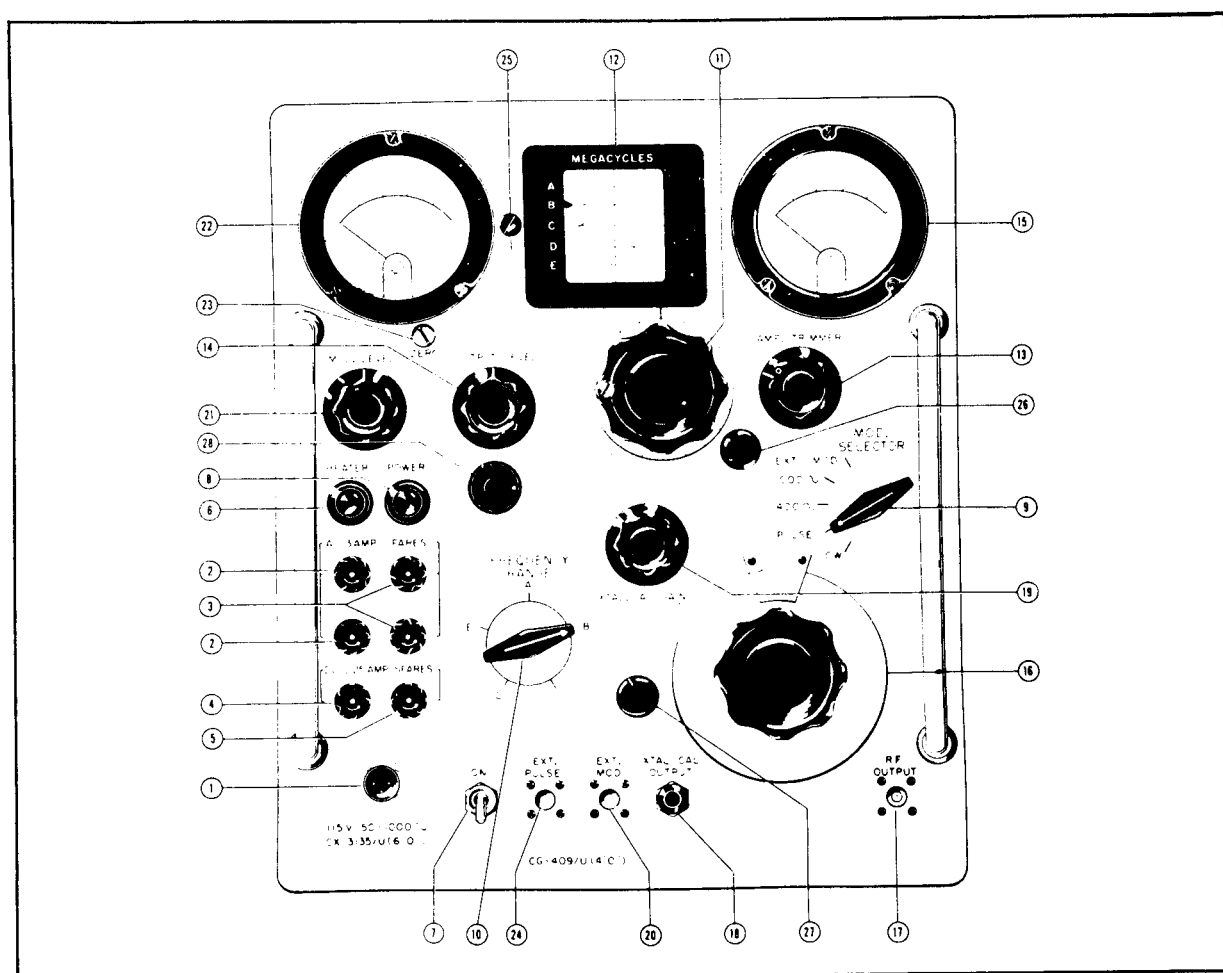
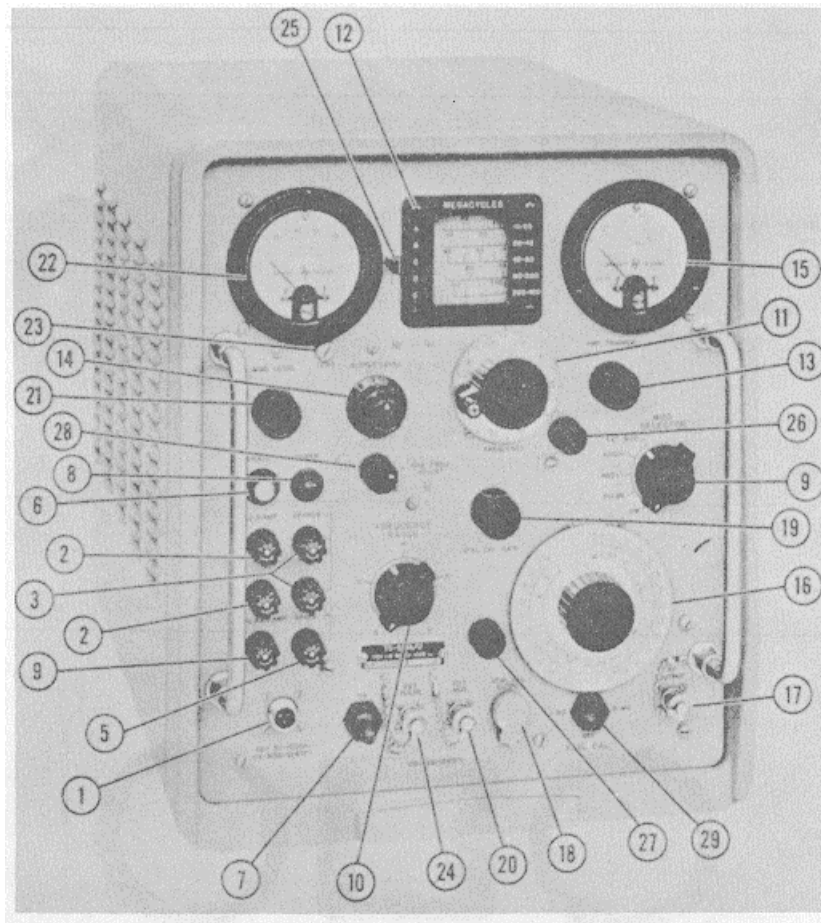
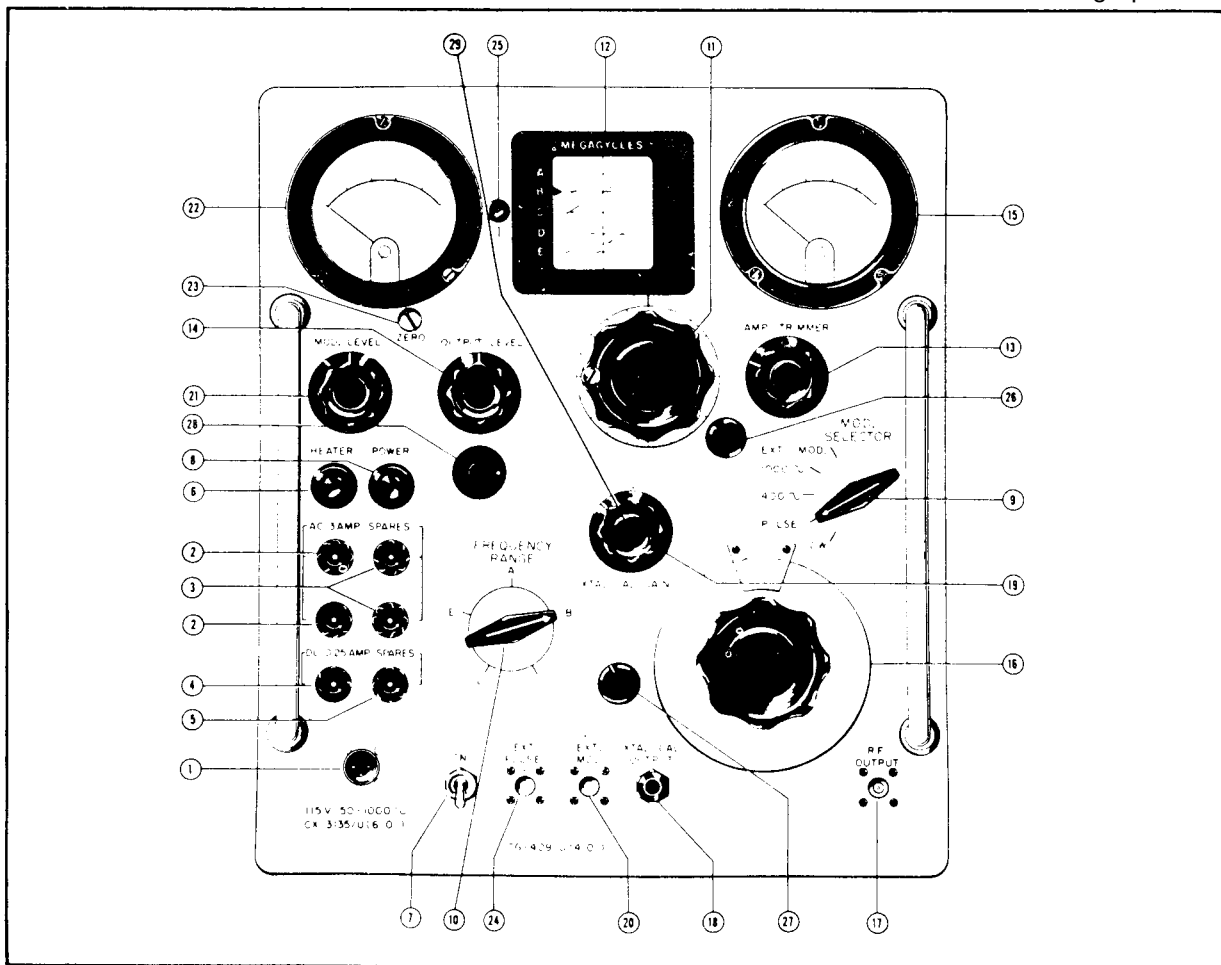
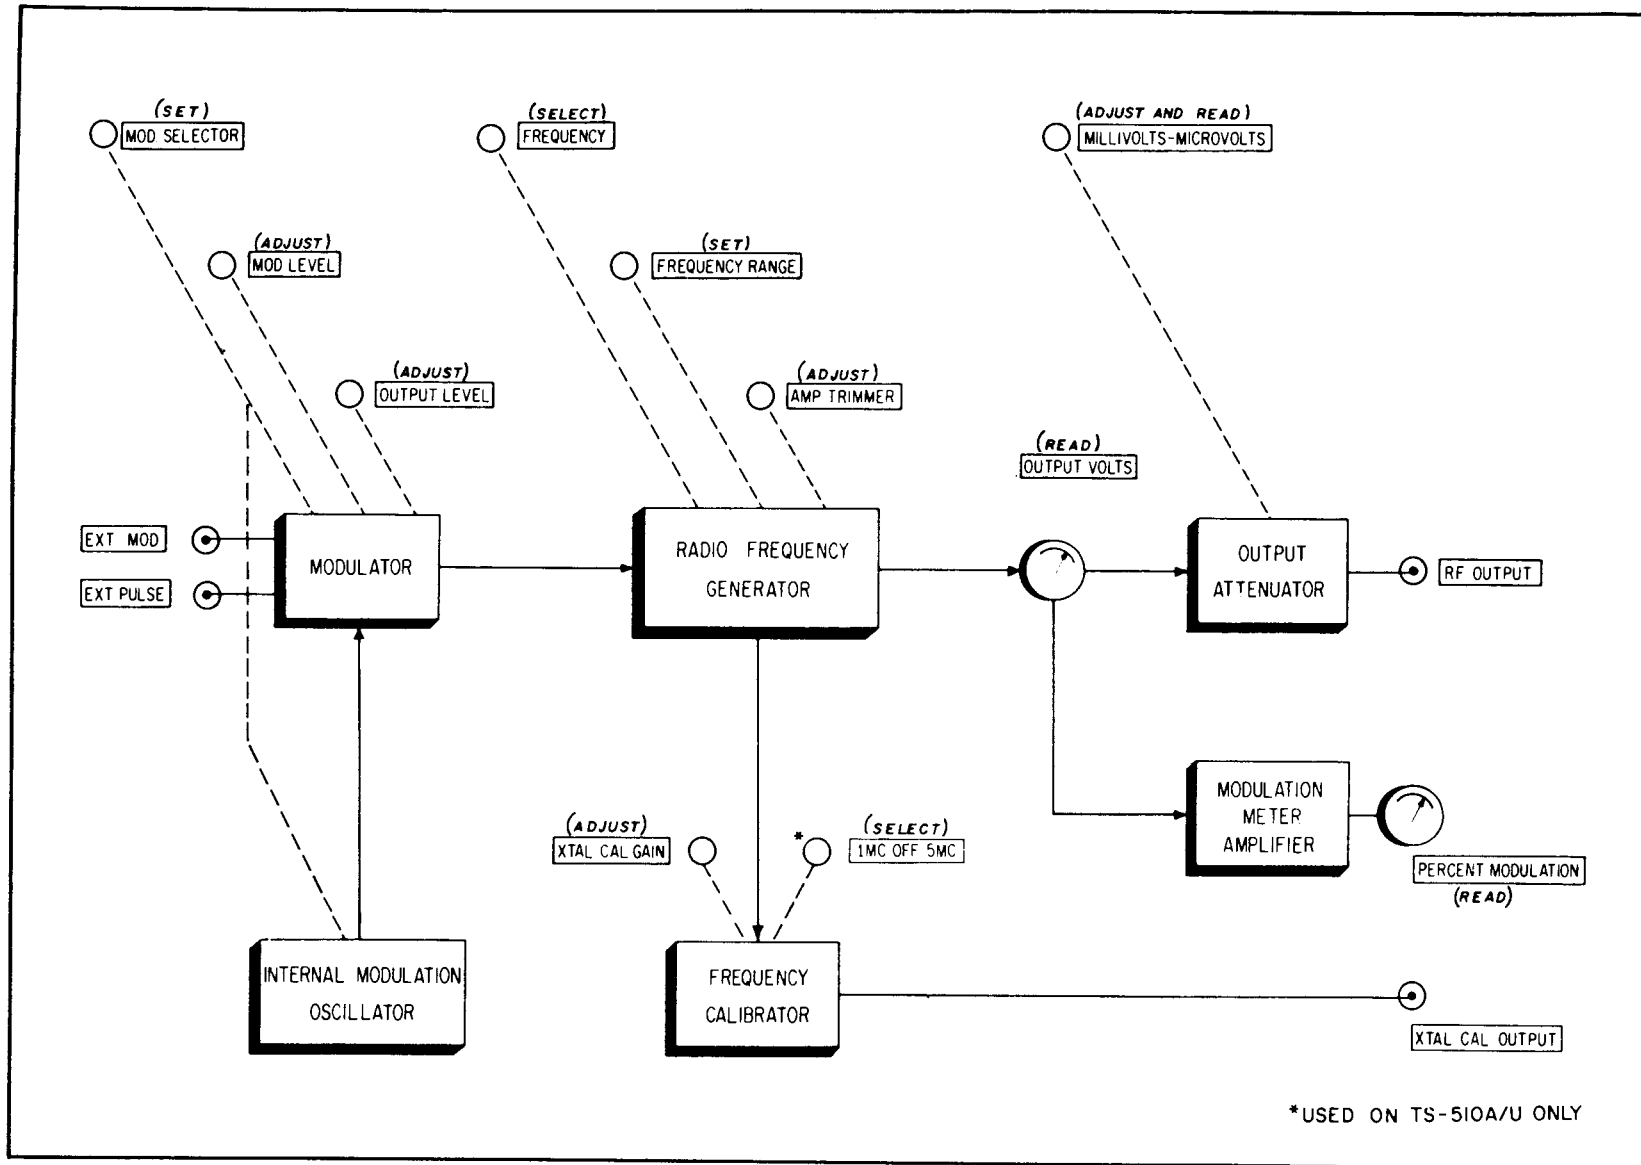

Figure 2-1. Signal Generator TS-510/U (Hewlett-Packard) Front Panel Controls
Figure 2-2. Signal Generator TS-510A/U (Hewlett-Packard) Front Panel Controls
Figure 2-3. Signal Generator TS-510A 'U (Nuclear Electronics) Front Panel Controls
Figure 2-4. Diagram Showing Relationships of Front Panel Controls to Major Circuits
1-32. FINE FREQ. ADJUST CONTROL. Beginning with serial number 510, the TS-510/U Signal Generators are equipped with a short range incremental tuning device for making extremely small changes in the output signal frequency. The FINE FREQ. ADJUST control is operated by an additional knob on the front panel and provides from 0.01 to 0.2% adjustment in the output frequency after selection by the main frequency control dial. The addition of the FINE FREQ. ADJUST control does not alter the circuit, operation, or specifications for the signal generator. The FINE FREQ. ADJUST control is illustrated in figures 2-2 and 2-3, item 28.
1-35. OUTPUT ATTENUATOR CONTROL, TS-510/U AND TS-510A/U(*). (See figures 2-1 and 2-2.) The accuracy of the attenuator dial is within ± 2 decibels for all conditions of operation at rated load.
1-36. OUTPUT ATTENUATOR CONTROL, TS510A/U().** (See figure 2-3.) The accuracy of the attenuator dial is within ± 1 decibel for all conditions of operation at rated load.
2-8. The front panel operating controls, dials, and terminals for the TS-510/U and the TS-510A/U are listed with their functions in Table III and are shown in figures 2-1, 2-2, 2-3, and 2-4. Figure 2-1 shows the front panel layout for the TS-510/U. Figure 2-2 shows the front panel layout for the TS-510A/U(*), and figure 2-3 shows the front panel layout for the TS-510A/U(**). A simple block diagram showing which circuits in the signal generator are affected by the various front panel controls is shown in figure 2-4.